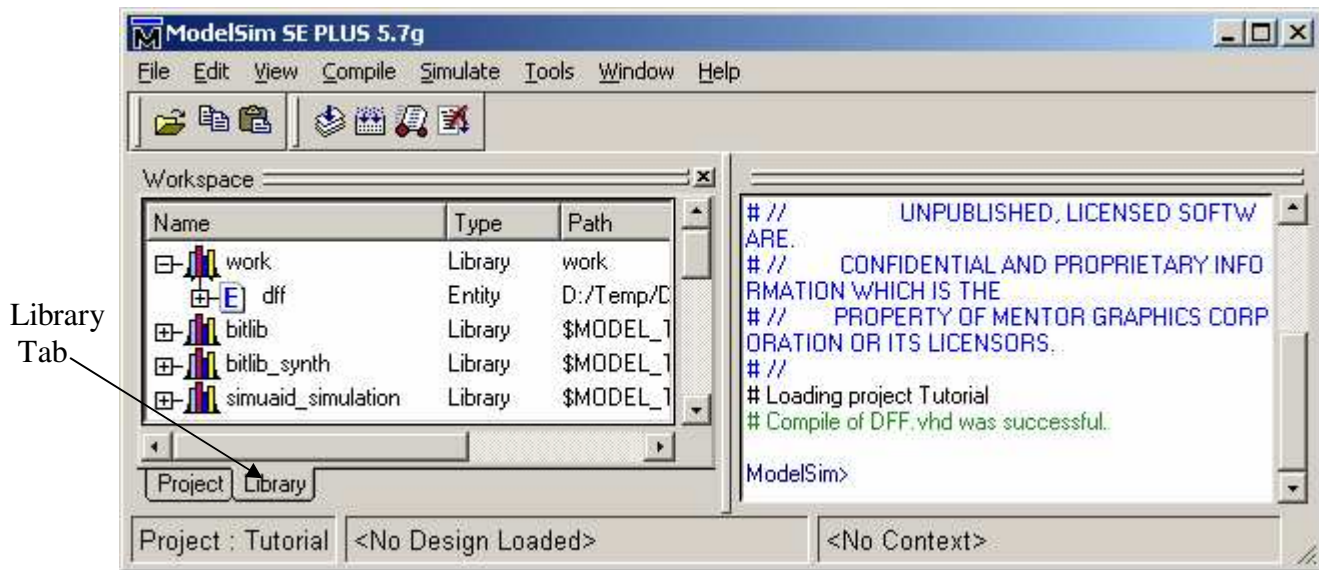

Figure 9: ModelSim’s Main Window
1. Click on the Library tab of the main window and then click on the (+) sign next to the work library. You should see the name of the entity of the code that we have just compiled “DFF”. (See Figure 9)